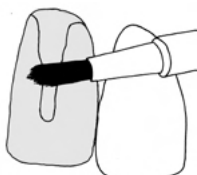

Fig. 3
5. Brush the mixed liquid onto both the metal and ceramic surfaces to which composite will be bonded. (Fig. 3)